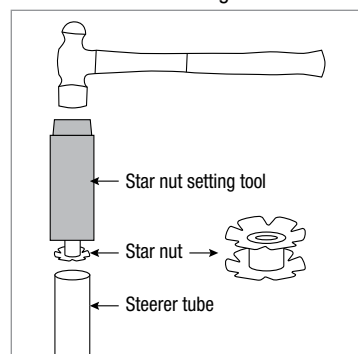

Figure 10
- A. Hold the fork with one hand (Fig. 2) and install a new star nut using a star nut setting tool and hammer (Fig. 10).